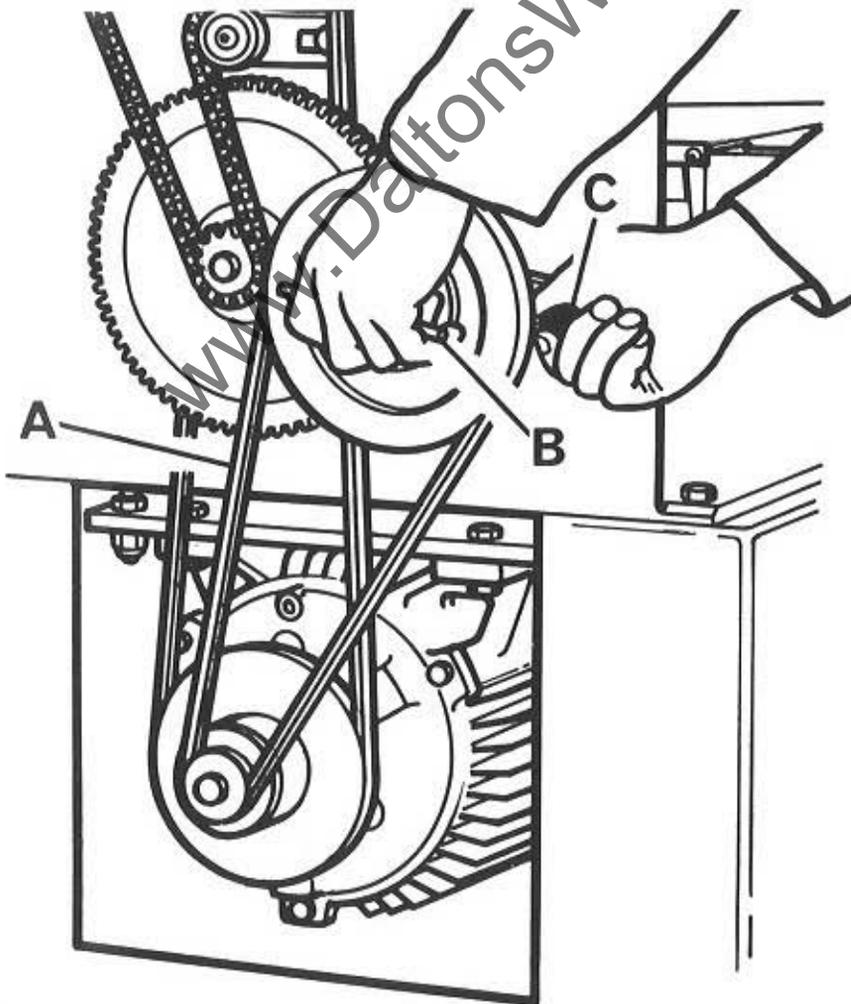
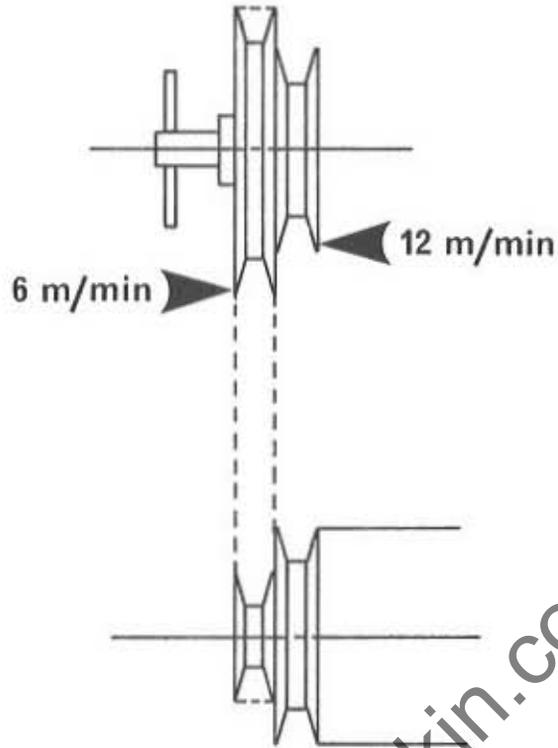

FIG. 11
FIG. 12
8. Replace feed belt "A" in FIG. 11 over motor pulley and feed pulley for required feed speed (see FIG. 12 for feed speed belt arrangement.).
9. Loosen feed pulley locking handle "B" in FIG. 11 and move pulley assembly by handle "C" until correct belt tension is attained, i.e. the feed belt should run neither too tight not too slack.